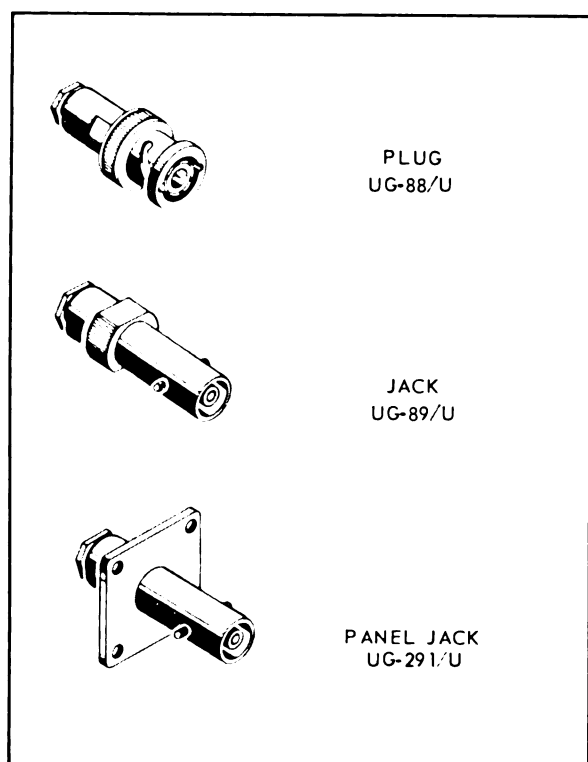
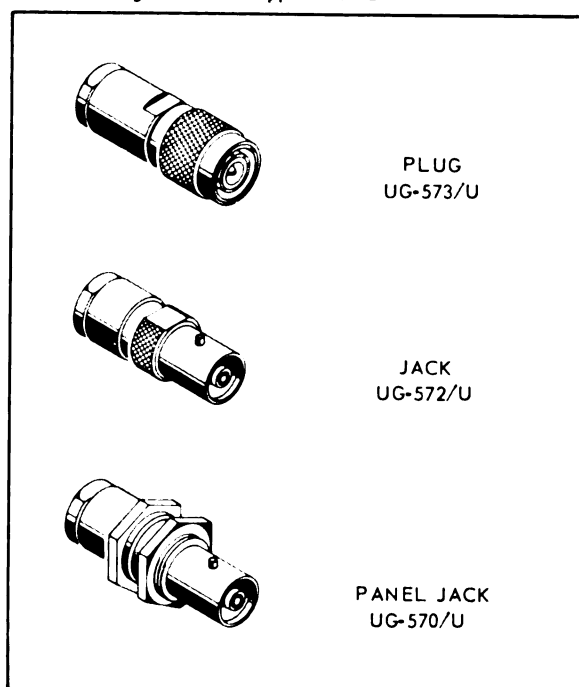

Figure 4-1. Typical BNC Connectors
Figure 4-4. Typical C Connectors
4-6. RF CONNECTORS. RF connectors are available as plugs, jacks and panel jacks, and receptacles. Plugs and jacks are attached to the ends of coaxial cables; panel jacks and receptacles are mounted to panels or chassis. Some panel jacks are fastened by means of four screws through holes in a plate integral with the jack body (see figure 4-1). Other panel jacks are fastened by means of a single nut threaded over the jack body (see figure 4-4). Panel jacks and receptacles may be either front or rear-mounted. Plugs always have male contacts; jacks and panel jacks always have female contacts. This section covers the following series of RF connectors:
a. BNC Series. See figure 4-1. A small, lightweight, bayonet type, quick-connect/-disconnect connector, used with small coaxial cables, where peak voltage is not more than 500 volts.
d. C Series. See figure 4-4. A late model, bayonet type, quick-connect/-disconnect connector used with medium size coaxial cables. It is electrically similar to the N series.
4-31. **BNC CONNECTOR TYPES.** There are two versions of BNC connectors, differing in the method of attaching coaxial cable to the connector body. See figure 4-1 for typical examples of BNC connectors. Table 4-1 lists the more common connectors in the BNC series and shows the coaxial cables associated with each.